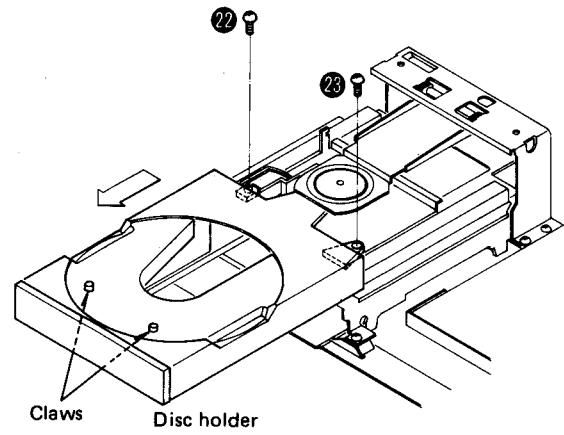

Fig. 10
3. Remove the disc holder setscrews. [Fig. 10 : 22, 23].
5. Remove the disc holder in the direction of the arrow as in Fig. 10.